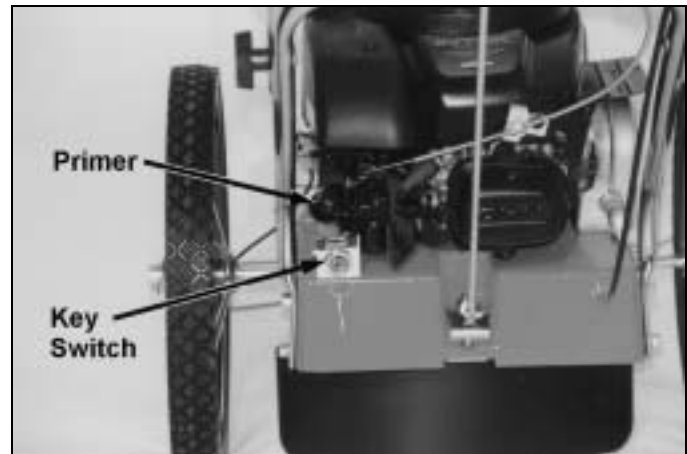

Figure 17
2. Prime the engine. Make sure you completely cover the air hole. Push the black primer bulb for three seconds and completely release it for three seconds (making sure you uncover the air hole), and repeat three to four more times (*Figure 17*).
3. Turn the key to the START position until the Trimmer starts, then release. The key will snap back to the RUN position (*Figure 17*).